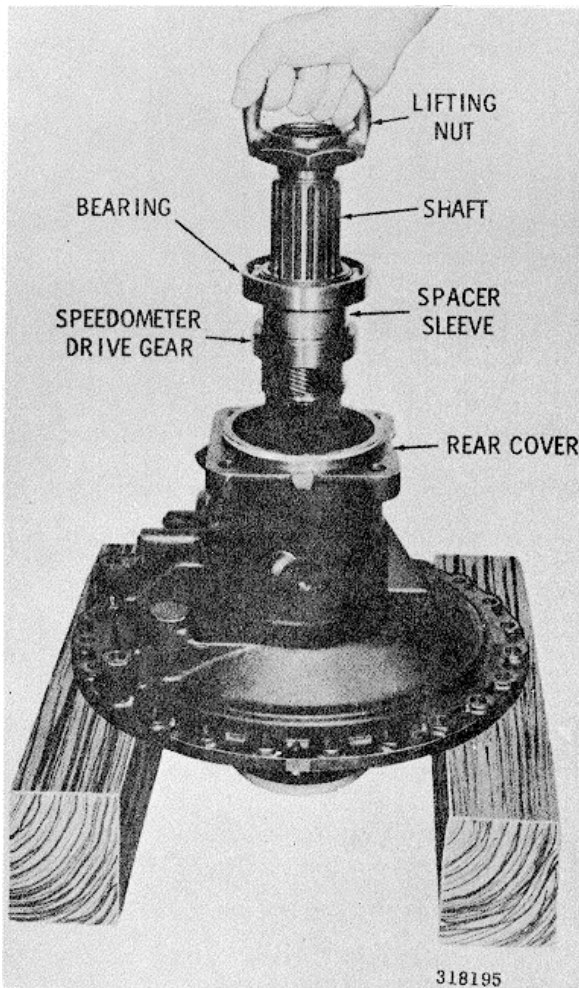
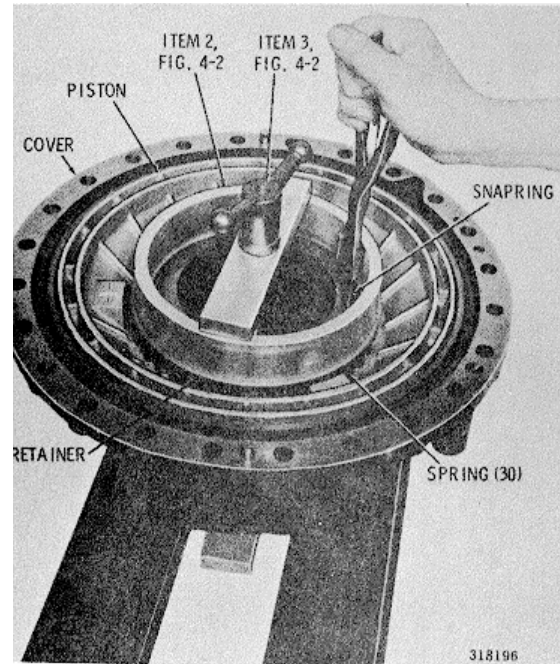

Fig. 6-52. Removing (or Installing) output shaft
Fig. 6-53. Removing (or installing) snap ring that retains piston in rear cover
- (5) Remove the rear output shaft, and its attached parts, from the rear cover (fig. 6-52).
- (6)
(6) Support the front of the speedometer drive gear, and press the output shaft from the gear, spacer sleeve and bearing (Fig. 6-52).
(7) If orifice plug 20 (A, foldout 16) or bushing 22 requires replacement remove either or both as required.
(8) Using compressor components 2 and 3 (Fig. 4-2), compress the spring retainer and springs (Fig. 6-53). Remove the snapping, and remove the compressor.
(9) Remove the spring retainer and 30 springs (Fig. 6-53).
(10) Remove the clutch piston (fig 6-53). Remove the inner and outer sealings from the piston.
(7) Remove the seal protector. Install 30 springs (Fig. 6-53). Install the spring retainer, cupped side first, onto the springs.
(8) Using compressor components 2 and 3 (Fig. 4-2), compress the retainer and springs (Fig. 6-53). Install the snapping, and remove the compressor.
(11) Press the speedometer drive gear, spacer sleeve, and bearing onto the rear output shaft (Fig. 6-52). Install the assembled shaft.